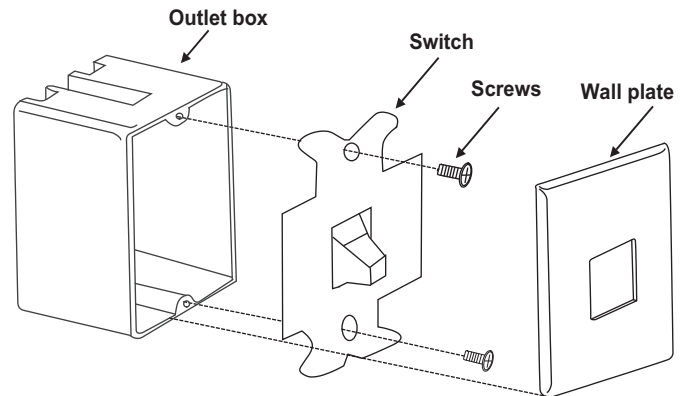

Figure 5
1. Remove the existing wall plate and switch. (Fig. 5)